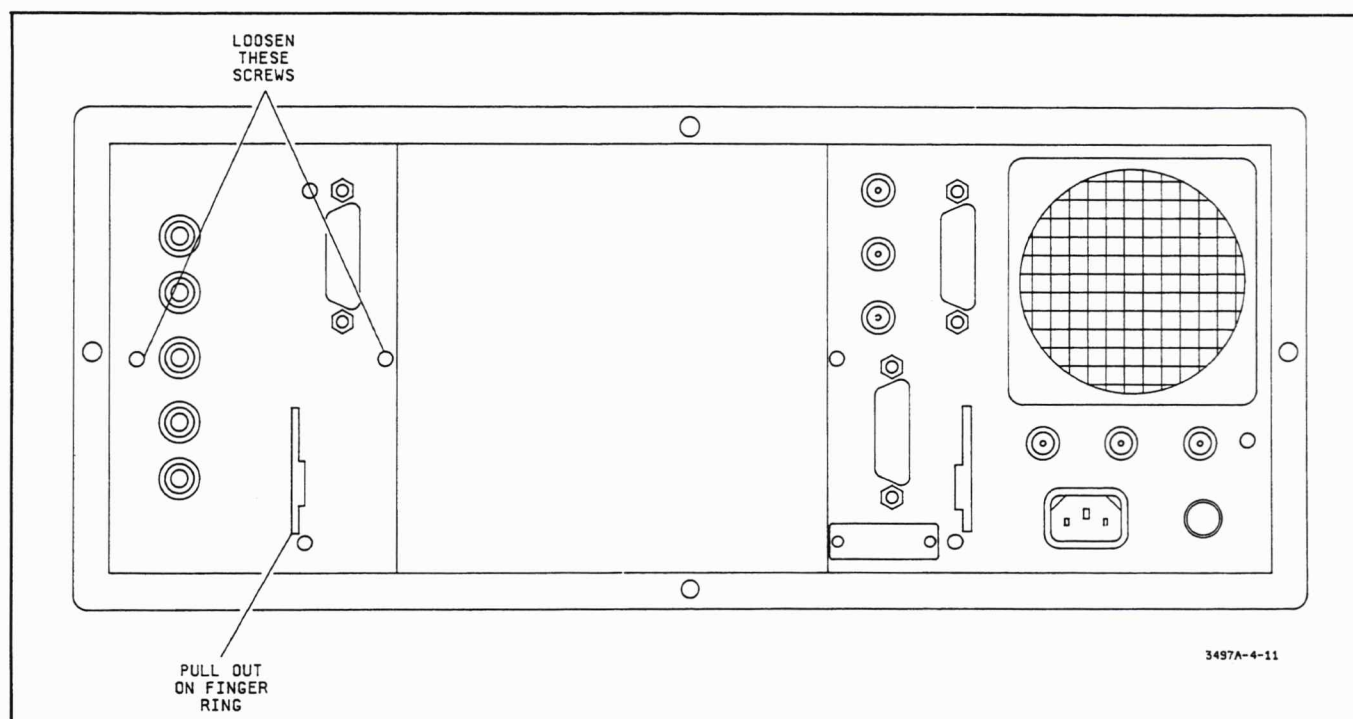

Figure 4-11. Inguard Board Mounting Screws and Finger Ring
1. Turn the 3497A off. Refer to Figure 4-11 and install any missing jumpers (A16J7 through J10).
c. Refer to Figure 4-11. Note that the Inguard Controller board is held in place by two mounting screws. Loosen the screws, but do not remove them. They are held in place by a rubber grommet.
d. Locate the built-in finger ring, shown in Figure 4-11, and pull on the ring to remove the board from the 3497A chassis.
5. Locate the mounting screws, shown in Figure 4-11, and tighten the screws. Reinstall the rear cover bracket.